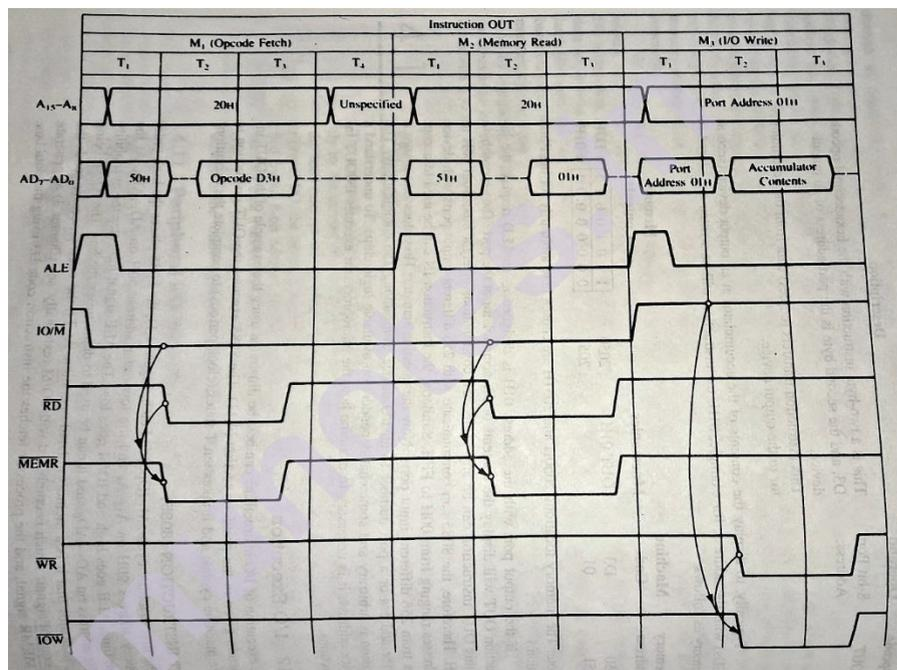

Figure 4.1 : 8085 Timing for Execution of OUT Instruction
In the first machine cycle, M_1 (Opcode Fetch, Figure 4.1) the 8085 places the high-order memory address 20H on $A_{15}-A_8$ and the low-order address 50H on $AD-AD_0$. At the same time, ALE goes high and IO/\overline{M} goes low. The ALE signal indicates the availability of the address on AD_7-AD_0 , and it can be used to demultiplex the bus. The IO/\overline{M} , being low, indicates that it is a memory-related operation. At T_2 , the microprocessor sends the \overline{RD} control signal, which is combined with IO/\overline{M} (externally, to generate the \overline{MEMR}) signal, and the processor fetches the instruction code D3 using the data bus.
Figure 4.1 shows the execution timing of the OUT instruction. The information necessary for interfacing an output device is available during T_2 and T_3 of the M_3 cycle. The data byte to be displayed is on data bus, 8-bit device address is available on the low-order as well as high-order address bus, and availability of the data byte is indicated by the \overline{WR} control signal. The availability of the device address on both segments of the address bus is redundant information; in peripherals I/O, only one segment of the address bus (low or high) is sufficient for interfacing. The data byte remains on the data bus only for two T-states, then the processor goes on to execute the next instruction. Therefore, the data byte must be latched now, before it is lost, using the device address and control signal
The objective of interfacing an output device is to get information or a result out of the processor and store it or display it. The OUT instruction serves that purpose; during the M₃ cycle of the OUT instruction the processor places that information (accumulator contents) on the data bus. If we connect the data bus to a latch, we can catch that information and display it via LEDs or a printer. Now the questions are : (1) When should we enable the latch to catch that information ? and (2) What should be the address of that latch ? The answers to both questions can be found in the M₃ cycle (Figure 4.1) .The latch should be enabled when IO/M is high and \overline{WR} is active low. Similarly, the address of an output port is also on the address bus during M₃ (it is 01H in figure 4.1). Now the task is to generate one pulse by decoding the address bus (A₇ - A₀ or A₁₅ - A₈) to indicate the presence of the port address we are interested in, generate a timing pulse by combining IO/M and \overline{WR} signals to indicate that the data byte we are looking for is on the data bus, and use these pulses (by combining them) to enable the latch. These steps are summarized as follows. (For all subsequent discussion, the bus A₇- A₀ is assumed to be that demultiplexed bus AD₇ - AD₀).